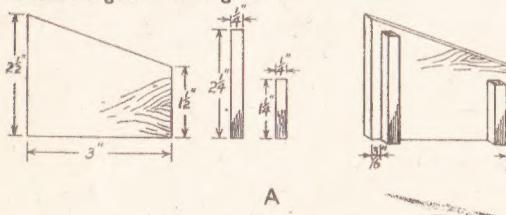

Fig. 3—Details of the sides, back and front
Commence on the sides, details of which are given in (A) Fig. 3. Cut two pieces 3 ins. long by $2\frac{1}{2}$ ins., tapering the top edge down to $1\frac{1}{2}$ ins., as clearly indicated. Cut two pieces $2\frac{1}{2}$ ins. by $\frac{1}{8}$ in., and two pieces $1\frac{1}{2}$ ins. by $\frac{1}{8}$ in., and glue
one of each on the sides $\frac{1}{8}$ in. from the edges, as clearly shown in (A) Fig. 3. The back is indicated in (B) Fig. 3, and consists of a piece of plywood $7\frac{1}{2}$ ins. long by $2\frac{1}{2}$ ins. wide.
The front for the box is simply a piece of plywood cut $7\frac{1}{2}$ ins. long by $1\frac{1}{2}$ ins. wide, as indicated in (C) Fig. 3. The parts thus cut are well smoothed up with glasspaper, and then fixed together with glue and allowed to set hard, after which all surplus glue showing can be carefully scraped off.